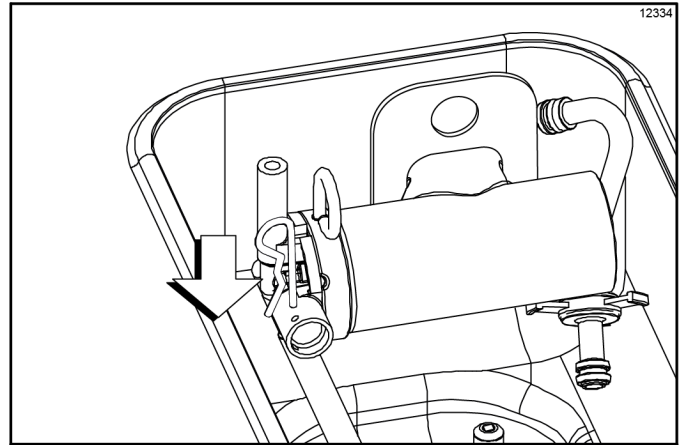

Figure 6-47
12. Remove the cotter pin from the pump. Stand the mix feed tube in the corner of the mix hopper. Place the cotter pin in position in the outlet fitting of the pump. (See Figure 6-47.)